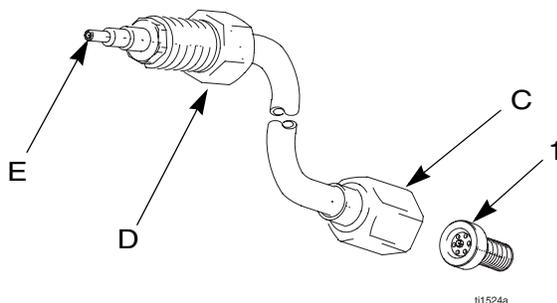

Fig. 11. Fluid Tube Replacement
2. Disconnect the bottom fluid tube nut (C). See FIG. 11.
3. Carefully unscrew the top fluid tube nut (D).